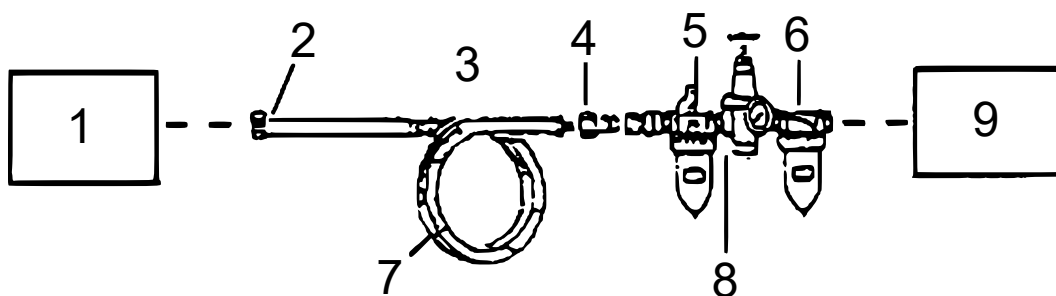

Figure 1
- To ensure that the tool works optimally, install an oiler, regulator and inlet filter as shown in Fig. 1. Please note that the oiler, regulator, and filter are not included in the scope of delivery.
- If not using an automatic oil system as shown in Fig. 1, add a few drops of pneumatic tool oil (not included) to the airline connection. Add a few more drops after every hour of continuous use.